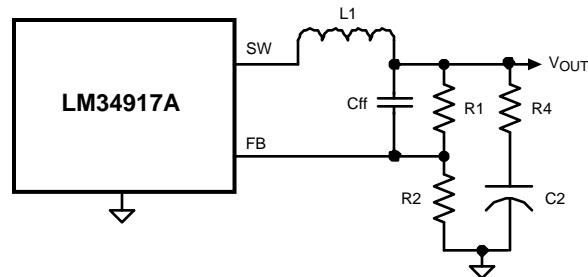
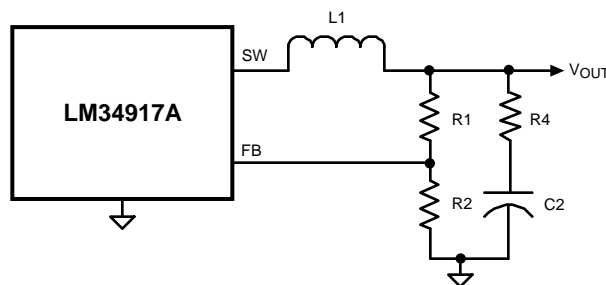
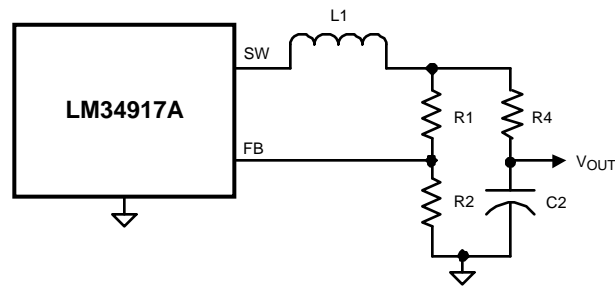

Figure 18. Reduced Ripple Configuration
Figure 19. Maximum Ripple Configuration
Figure 20. Alternate Minimum Output Ripple Configuration
b) Alternate #2: In Figure 19, R3, C7 and C8 are removed, and R4 is installed, resulting in a higher ripple level than the circuits of Figure 15 and Figure 18. Ripple is created at V_{OUT} by the inductor's ripple current passing through R4. That ripple voltage is coupled to the FB pin through the feedback resistors (R1, R2). Since the LM34917A requires a minimum of 25 mVp-p ripple at the FB pin, the ripple required at V_{OUT} is higher than 25 mVp-p by the gain of the feedback resistors. The minimum ripple current (I_{OR(min)}) is calculated by re-arranging Equation 11 using t_{ON(max)} and V_{IN(min)}. The minimum value for R4 is calculated from:
c) Alternate minimum ripple configuration: The circuit in Figure 20 is the same as that in Figure 19, except the output voltage is taken from the junction of R4 and C2. The ripple at V_{OUT} is determined by the inductor's ripple current and C2's characteristics. However, R4 slightly degrades the load regulation. This circuit may be suitable if the load current is fairly constant. R4 is calculated as described in Alternate #2 above.